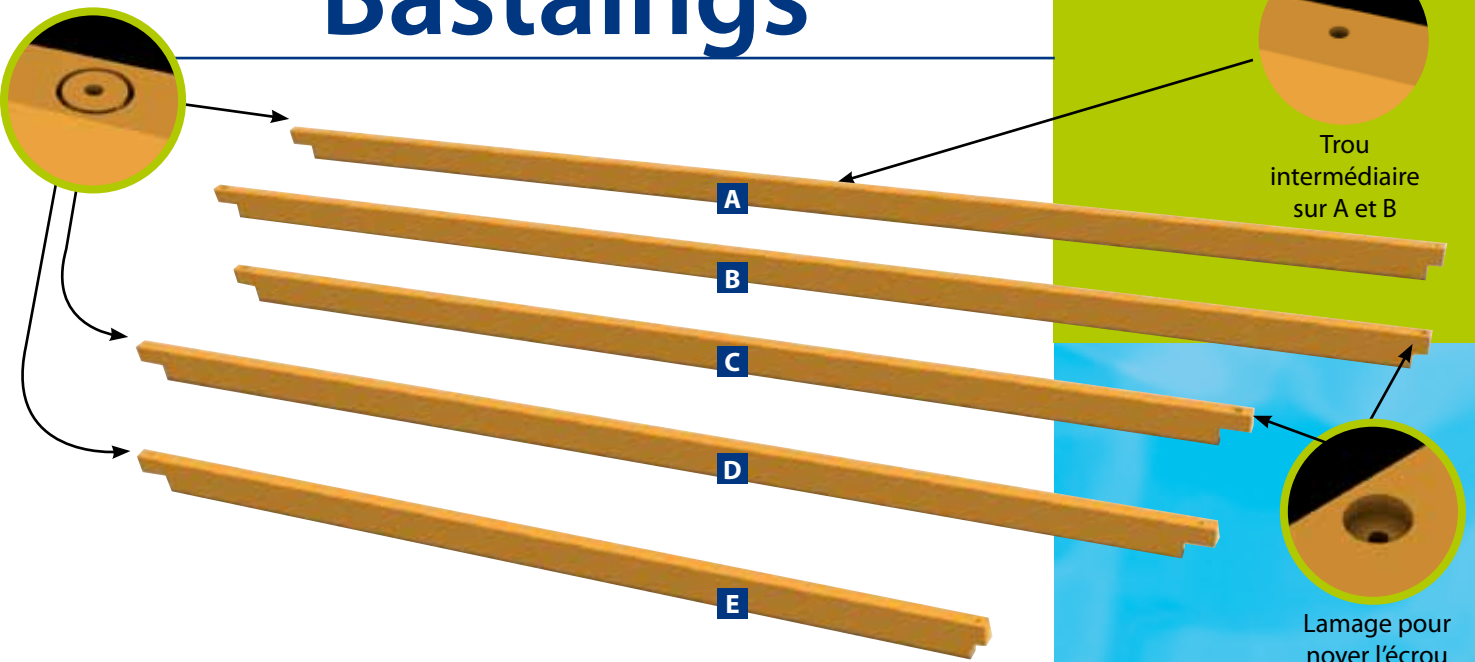

Figure 11
- A : Bastaings L 5 m (figure 11).